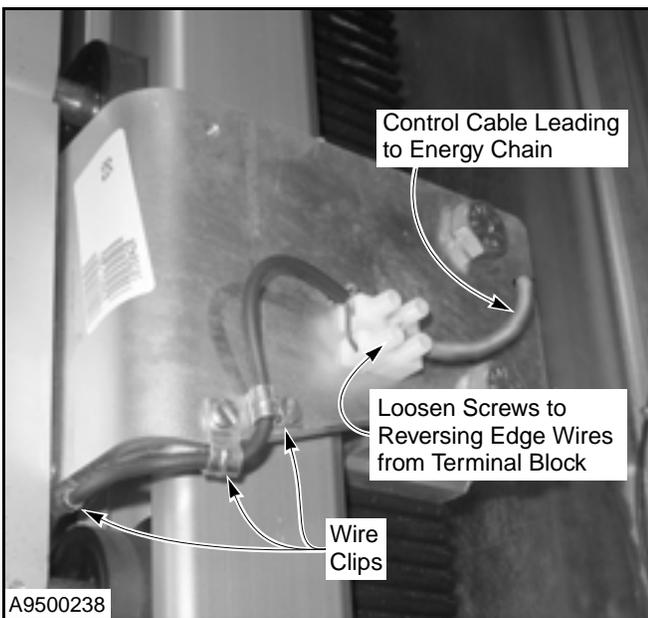

Figure 77
5. Disconnect the reversing edge control wires from the terminal block. (See Figure 77.)
6. Disconnect the reversing edge cable from the end bracket and the bottom door panel by removing the wire clips screwed to the bracket and panel. Save all hardware. (See Figure 77.)